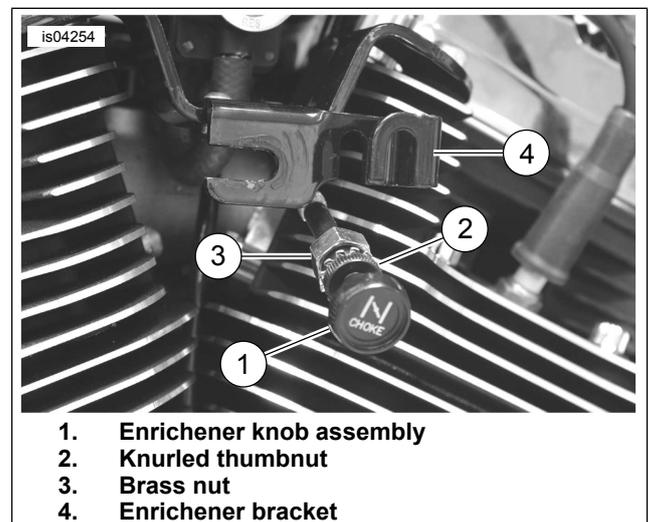

Figure 2. Remove Enricher Assembly (1200C Shown)
Bracket shown in Figure 2 illustrates XL1200C. Brackets differ only in the fact that bracket for 1200C has extended portion of the enricher bracket formed for mounting the horn assembly.
3. See Figure 2. Remove the enricher assembly (1) from the mounting bracket (4) by loosening the brass nut (3) in back of the bracket. You may have to hold the plastic thumbnut (2) in front of the bracket to keep the assembly from turning. Pull the enricher assembly down to remove from bracket.